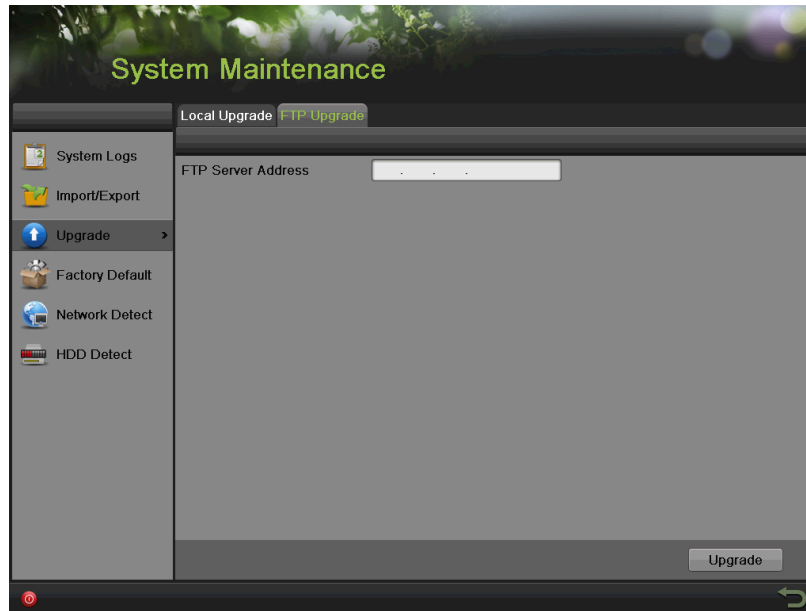

Figure 171 FTP Upgrade Menu
2. Select the FTP Upgrade tab, as shown in Figure 171.